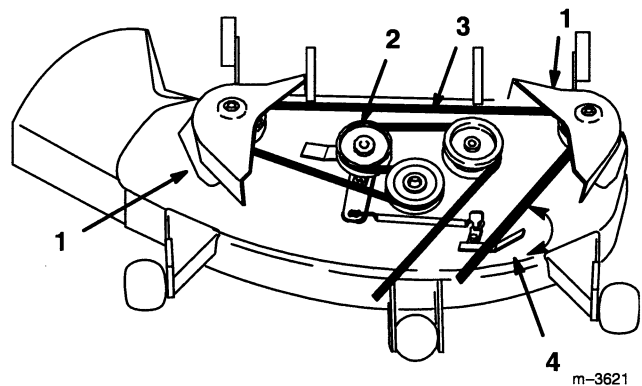

Figure 28
2. Remove the pulley cover mounting screws and pulley covers from both blade pulleys (Fig. 28).
3. Remove the belt from the pulleys (Fig. 28).
2. Install the left and right pulley covers with the mounting screws (Fig. 28).